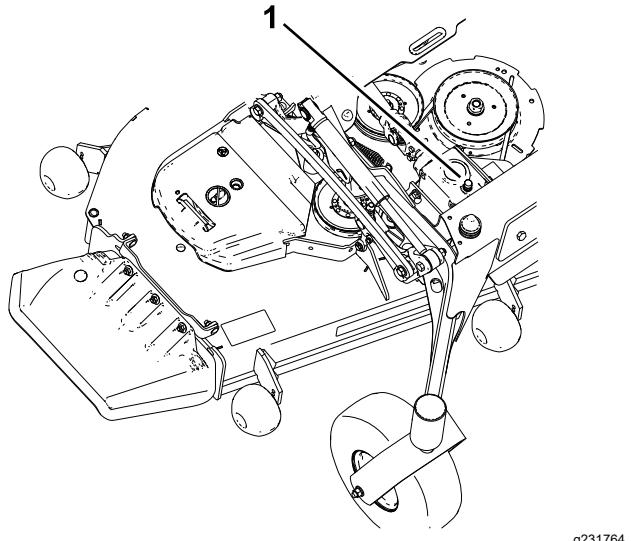

Figure 57
5. Remove the dipstick/fill plug from the top of the gearbox and ensure that the lubricant is between the marks on the dipstick (Figure 57).